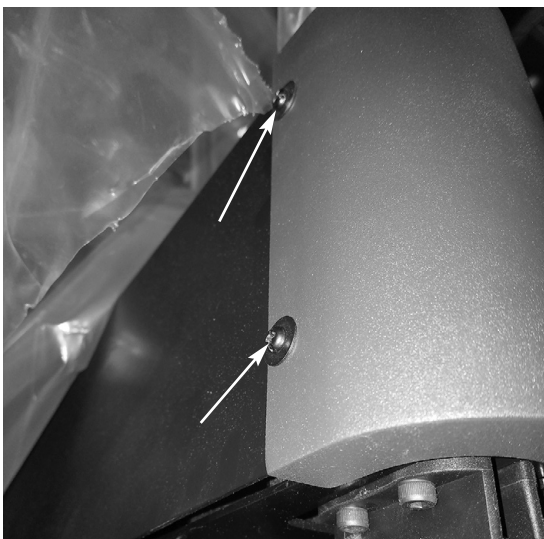

Figure 11
Refer to Figures 11 through 15.
1. Remove the two screws from the back of the top-rounded cover (Figure 11).